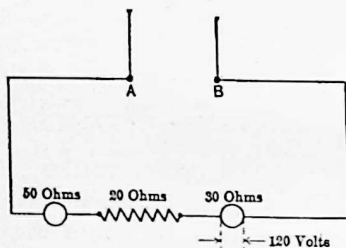

FIG. 35. Two lamps and a coil in series.
**Example 3.** In Fig. 35 a lamp of 50 ohms, a resistance of 20 ohms, and another lamp of 30 ohms are connected in series across